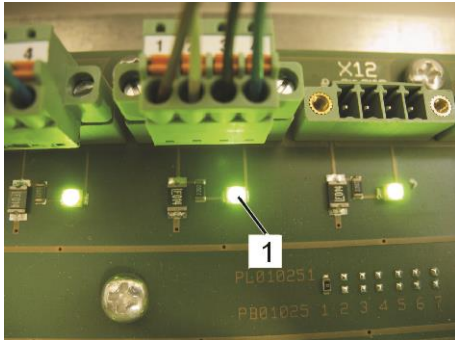

Fig.117: Terminal box
2. Check if the LED of all connected sensors are on (Fig.117/1).